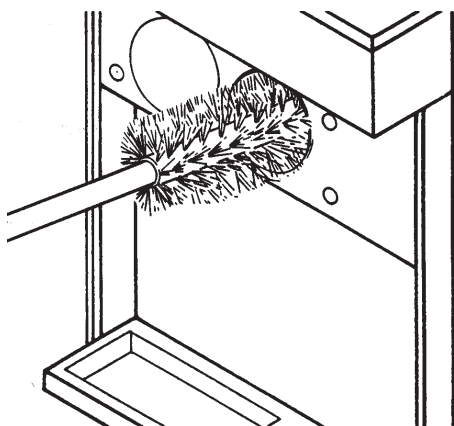

Figure 26. Cleaning Freezer Barrel
- B. Wash the hopper and freezer barrel with warm detergent water and brush provided (Fig. 26).